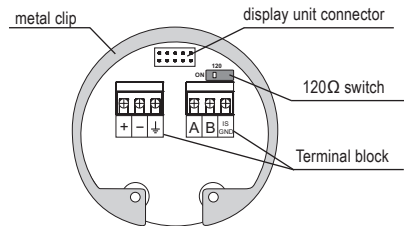

Fig. 34: Inside view of screw terminals of the level meter with Modbus GRLM-70 \_ \_ \_ - M
6. If the level meter with Modbus is involved as a terminal for RS-485, we recommend (to avoid reflections on the line) to connect 120Ω termination resistor. This is done by moving a small lever of the switch marked 120Ω to the ON position. On the level meters connected to the line RS-485 as an intermediate device, the termination resistors are not connected (switch remains off) in Fig 34.